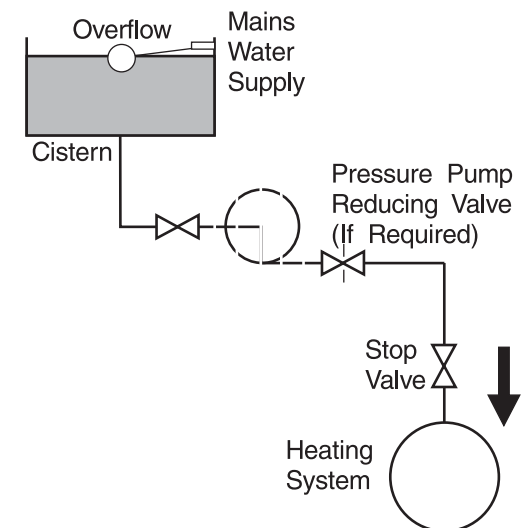

Fig.10
- ii) where access to a make-up vessel would be difficult by using the mains top up method or a remote automatic pressurisation and make-up unit as shown in Fig. 10.
The system shall be fitted with a filling point at low level which incorporates a stop valve to BS 1010 and a double check valve of an accepted type to be fitted in this order from the system mains, see Fig. 10.